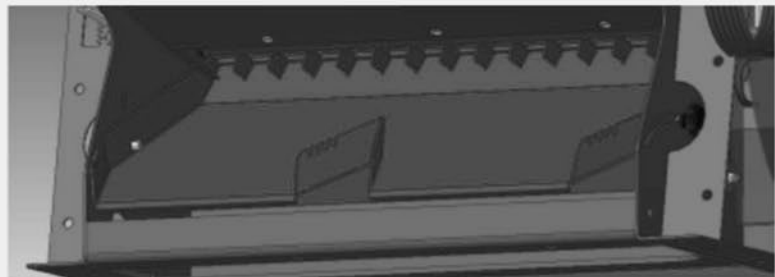

Figure 43
2. Loosen the two star knob screws on the sides of the calibration slide and pull the chute up through the elongated slots so that it is positioned between the partition plates. Then fasten it again with the star knob screws (Figure 43).